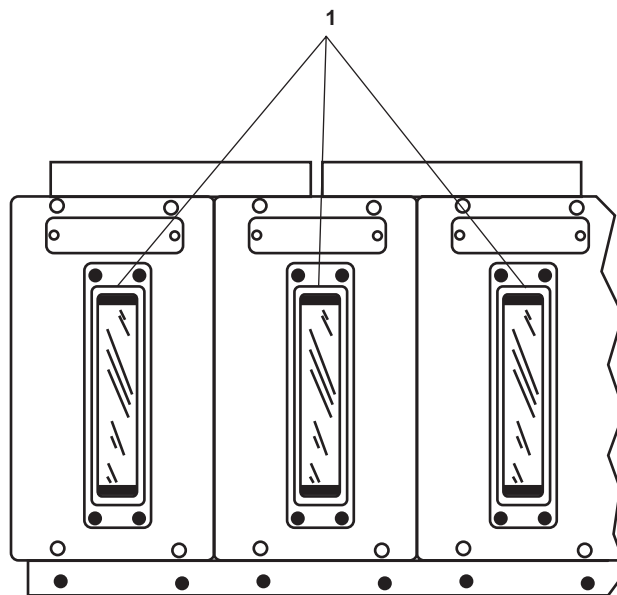

Figure 4. TLI Remote Indicator
- b. To monitor at a receiver panel, locate the TLI of the tank to be monitored and observe fluid level meter (figure 4, item 1) to determine the fluid level.